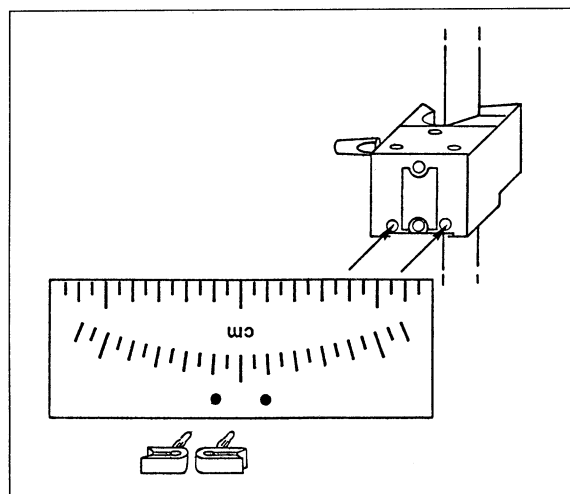

Fig. 2 Attaching the scale to the sleeve block using two retaining clips
(1) Balancing rider (2) Pointer (3) Spindle
4. Slide the balancing rider (1) along the lever until the pointer (2) is pointing vertically downwards (zero position).
5. Attach the scale to the lower of the two sleeve blocks using two retaining clips. ► Fig. 2.